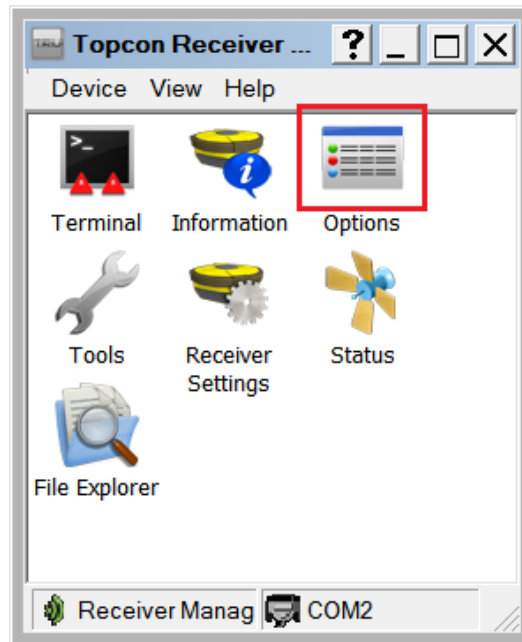

Figure 26: Click Options
8. Click **Options** (Figure 26). The **Receiver Options** window displays.